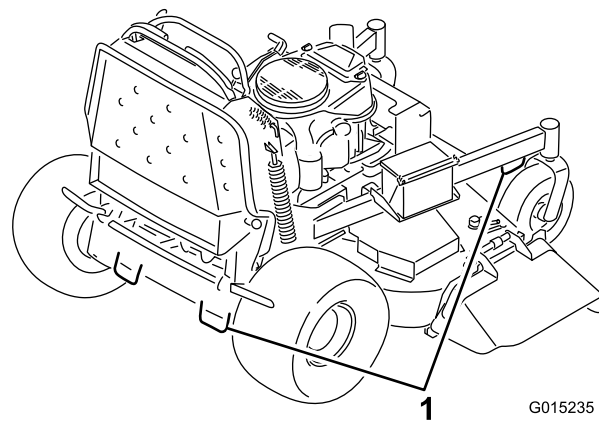

Figure 26
- Use the metal tie down loops on the machine to securely fasten the machine to the trailer or truck with straps, chains, cable, or ropes (Figure 26).